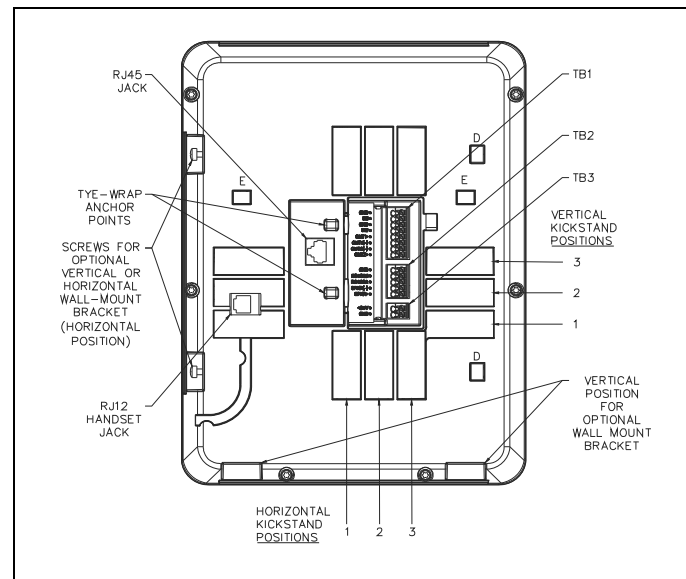

Figure 4. HUBBCOM™ Smart Controller—Rear View
5. Install the kickstand. The kickstand provides four positions in both orientations to suit the situation where it will be used (see Table 1 and Figure 4).
2. Insert one side of the kickstand with the flange properly oriented into the desired position in the rear cutout (see Figure 4).
5. Remove the two #8 × ½-inch mounting bracket screws from the bottom of the rear panel and set aside (see Figure 4).
7. With the proper orientation for the unit's configuration, angle the unit to hook it onto the top flange brackets (D-D or E-E, see Figure 4), then rotate and slide it downward until it rests on the mounting bracket.
7. Remove the two #8 × ½-inch mounting bracket screws from the bottom of the rear panel and set aside (see Figure 4).
9. With the proper orientation for the unit's configuration, angle the unit to hook it onto the top flange brackets (D-D or E-E, see Figure 4), then rotate and slide it downward until it rests on the mounting bracket.
2. Plug the Ethernet cable into RJ-45 jack J4 on the back of the Smart Controller (See Figure 4).